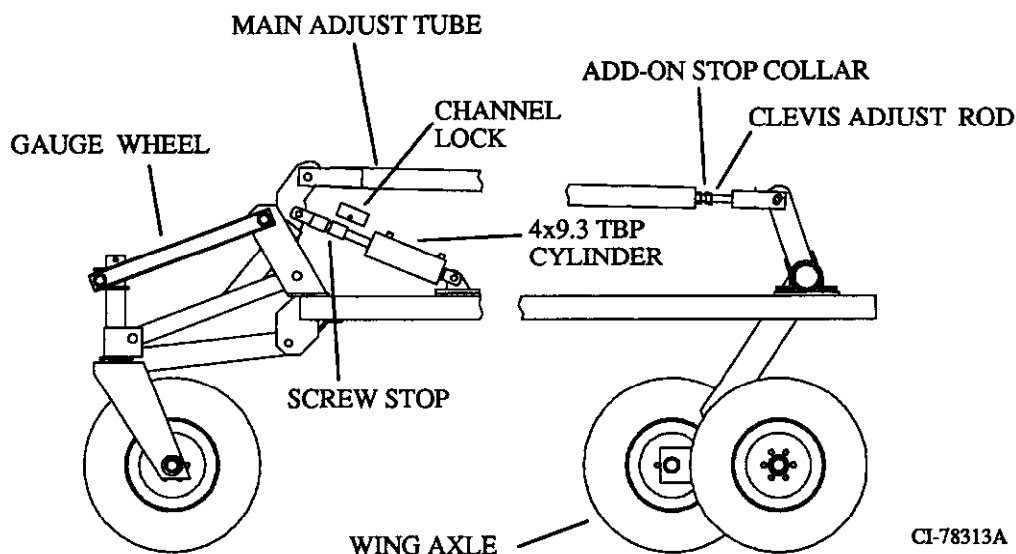

Fig. 4 Main Frame Adjustment
The implement must always be placed in the transport position and the cylinder channel locks (Fig. 4) used when traveling on public roads. Never depend on your tractor's hydraulic system to carry the weight of the implement while transporting.
**NOTE:** Always install lock channels in the main lift cylinders for road transport (see fig. 4).
The main frame depth on the Wil-Rich Quad-5 field cultivator is regulated by a pair of 9.3" stroke by-pass hydraulic cylinders located at the front corners of the main frame. See Fig. 4.
**NOTE:** Frame depth control cylinders need to be installed with the rod end of the cylinder to the front of the machine. See Fig. 4.
The main frame depth is mechanically set by turning the stop collar "DOWN" the cylinder rod for decreased working depth and "UP" the cylinder rod for increased working depth. An add-on stop collar is provided in situations where the cylinder rod stop collar does not allow a shallow enough setting. See Fig. 4.